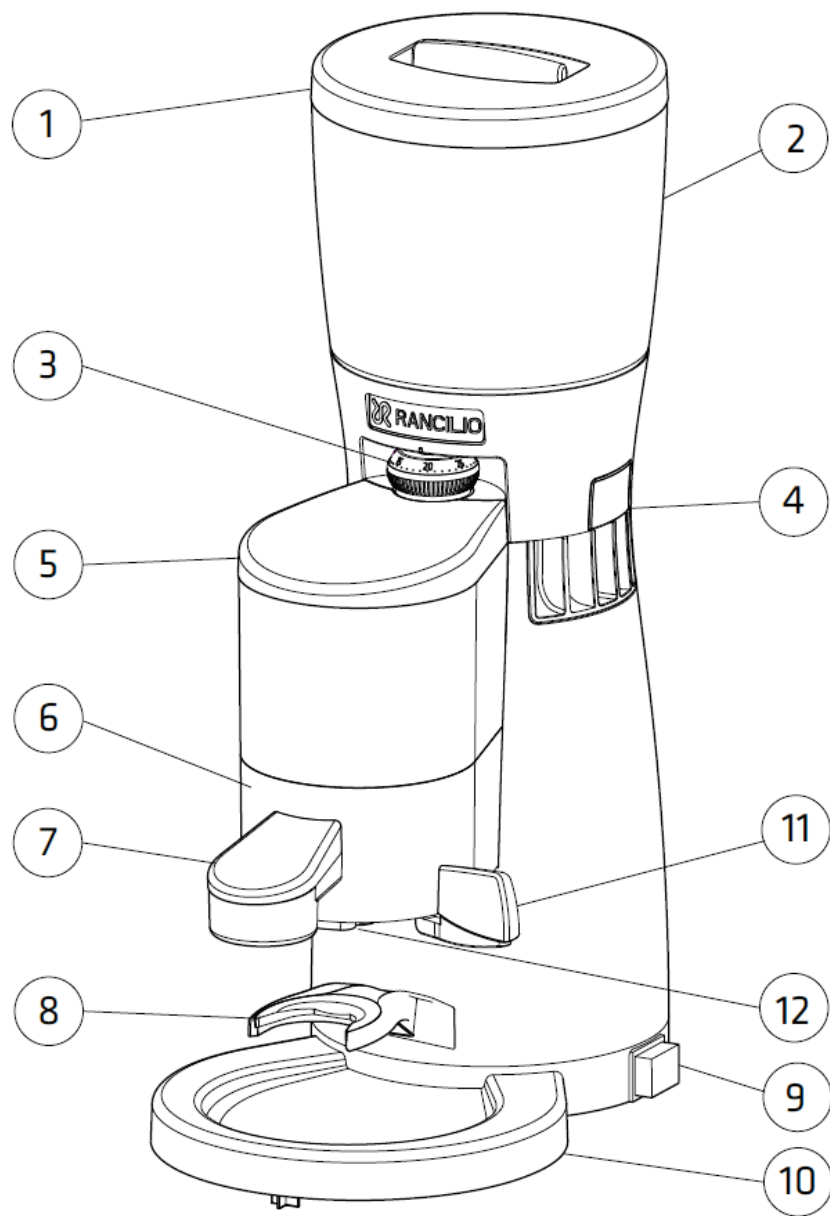

Fig. 1
Legend (Fig. 1)
Grind coffee as needed by switching the main switch (Fig. 1 – 9)
Press the main switch (Fig. 1 – 9). The grinding will then take place automatically.
- *Place the filter holder in the filter holder fork (Fig. 1 – 8), pull the dosing lever (Fig. 1 – 11) firmly towards you and release, repeating the action for each dose of coffee required.*
- *Level out the coffee contained in the filter, position the filter holder under the tamper (Fig. 1 – 7) and raise gently to tamp the coffee;*